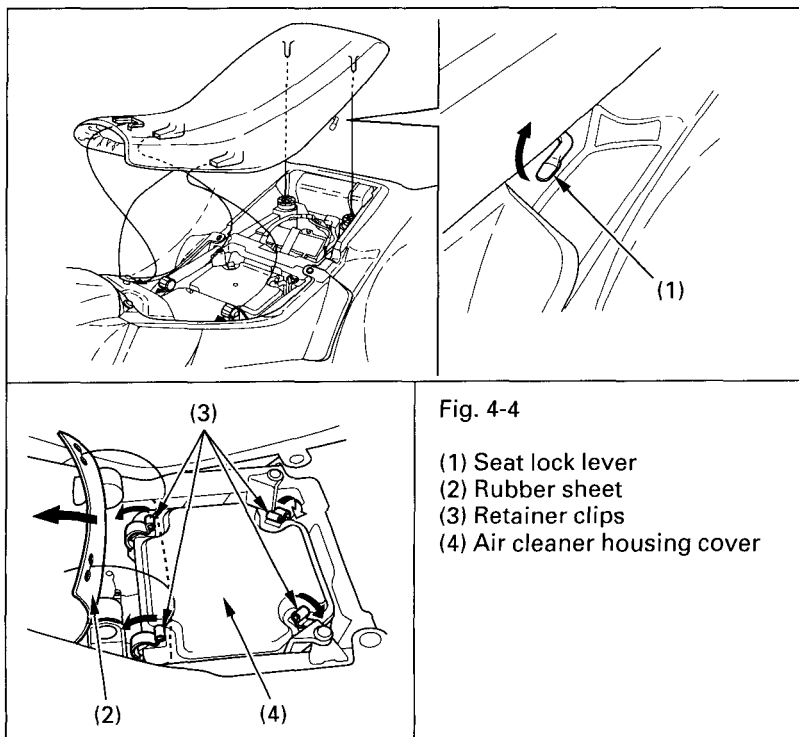

Fig. 4-4
1. Remove the seat by pulling up the seat lock lever (1) (Fig. 4-4).
2. Uncover the rubber sheet (2) from the retainer clips (3).
3. Unlatch the four retainer clips (3) and remove the air cleaner housing cover (4).